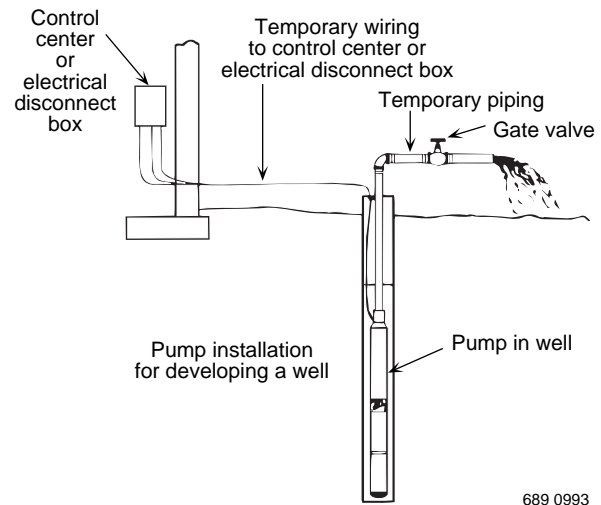

Figure 10 – Temporary Connections while cleaning well for start-up.
- Connect a pipe elbow, a short length of pipe and a gate valve to pump discharge at well head (see Fig. 10).
- Set gate valve on discharge 1/3 open; start pump (see Fig. 10).